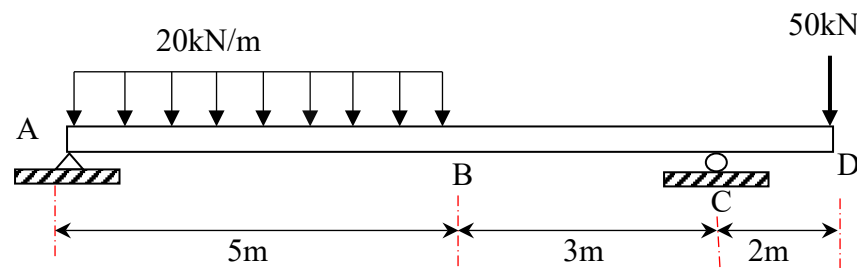

Figure A2(a) / Rajah A2(a)
- (a) An overhang beam is subjected to the external loads as shown in **Figure A2(a)**. According to the Influence Line Diagram;